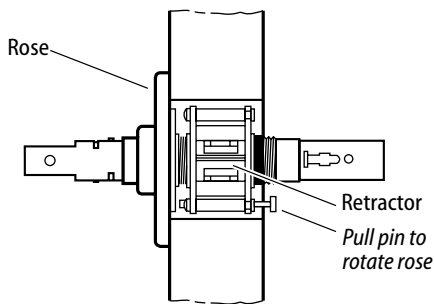

Figure 5 Marking the centerlines
- If not centered, use the door as a reference and center the retractor in the door. Do this by pulling the rose locking pin and rotating the outside rose in or out. (See Figure 5.)